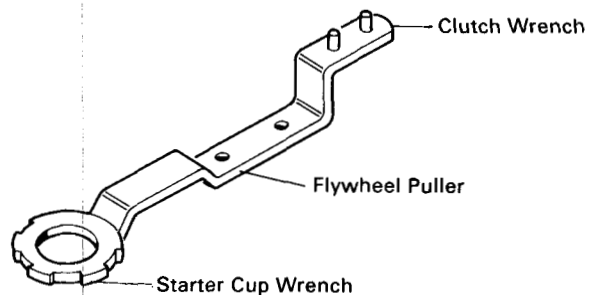

Figure 25
4. The clutch assembly (shoes and springs) can be removed with the multipurpose tool P/N #45-1390 (Fig 25). Align the pins on the tool with the holes in the clutch assembly. While supporting the opposite end of the power shaft with a piece